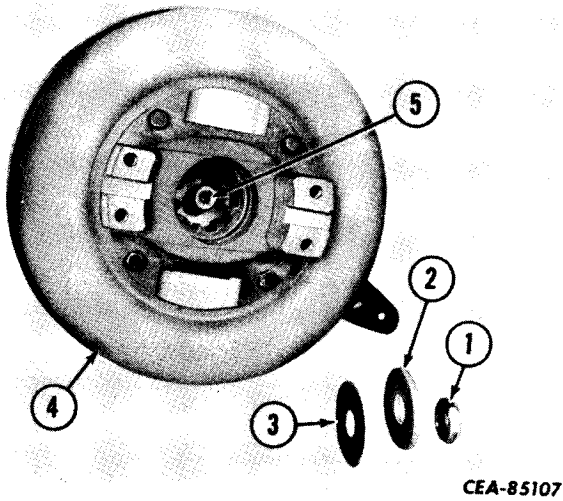

Figure 5-20
Remove the locknut (1, Fig. 5-20), retainer (2), and seal washer (3, where used) that secure the yoke and drum assembly (4) to the shaft (5).